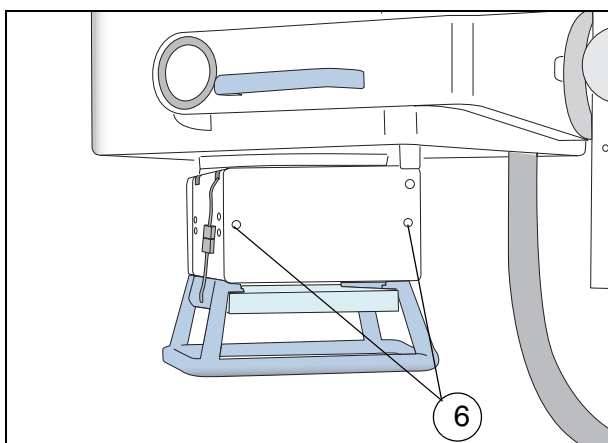

Fig. 6
- Remove the two screws (6/Fig. 6) and remove the back panel.